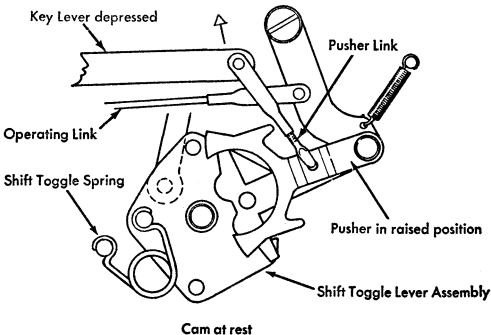

Figure 28. Pin Clearance Adjustment.
6. PUSHER LINK. Adjust this so that the top edge of the upper arm of the pusher strikes slightly above the upper pin when the cam is released. Turn the power on and slowly depress the key lever to observe this adjustment. Let the key lever slowly restore to its rest position to check for similar engagement of the lower pin (Figure 28).
7. OPERATING LINK. Adjust so that the pusher clears the pin by $1/32''$ to $1/16''$ (Figure 28).